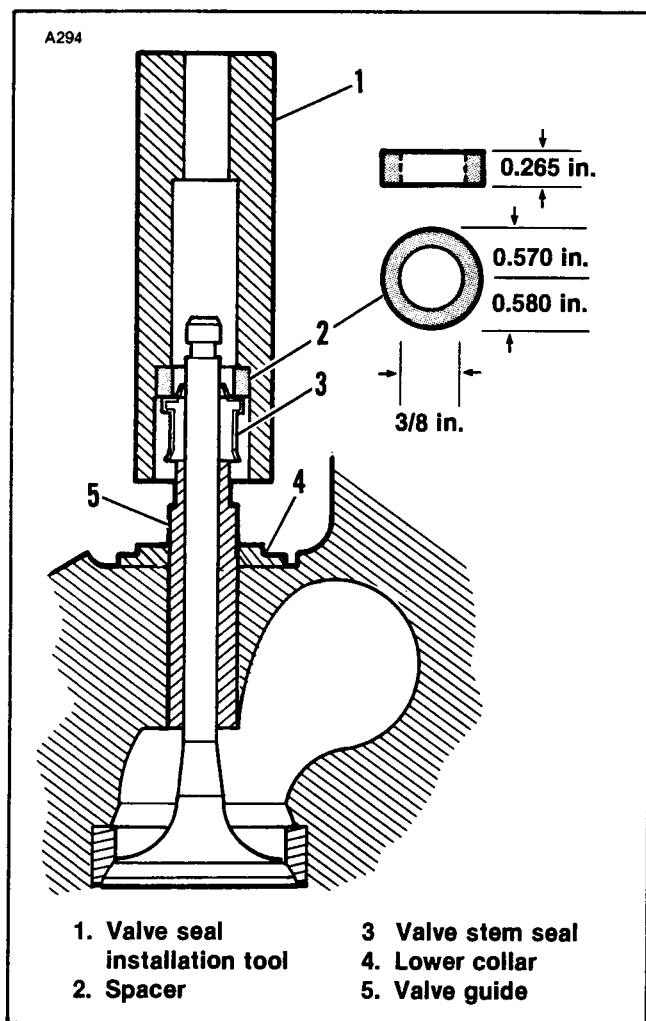

Figure 1. Valve Seal Installation with Spacer
See Figure 1. Because of the new valve stem seal configuration, seal (3) will no longer pass through the bore of lower collar (4). It is now necessary to install the lower collar first and then press the seal onto the top end of valve guide (5). A spacer (2), which is the thickness (0.265 inch) of lower collar (4), must be installed in the bore of tool (1) HD-34643 since the tool will now be bottoming on top of the lower collar instead of the cylinder head.
Installation of Valve Seal (Figure 1)